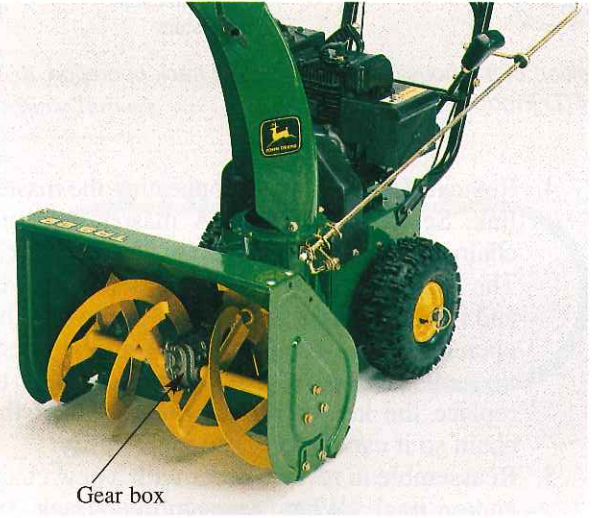

**Figure 20-22.** An auger reduction gear box reduces the rotation speed of the auger. (Deere & Co.)
**Figure 20-21** shows a portion of chains and belts used in a wheel-driving system. **Figure 20-22**